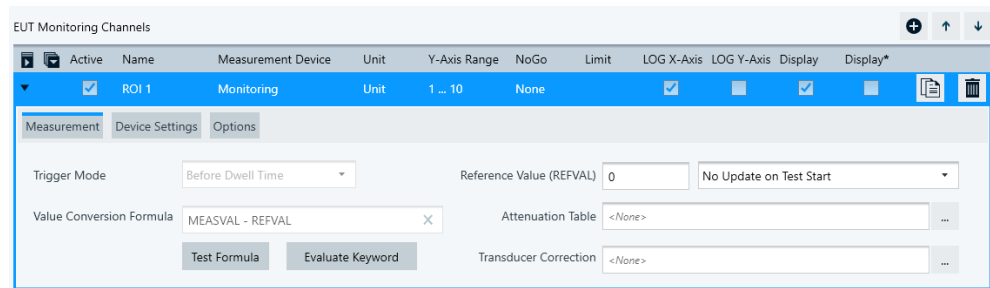

Figure 9-3: Device Settings tab of the EUT Monitoring template in R&S ELEKTRA
- Ensure that the "Trigger Mode" is set to "Before Dwell Time". The "Measurement" dialog for "EUT Monitoring Channels" can look like in Figure 9-3, with the "Trigger Mode" already locked to "Before Dwell Time":